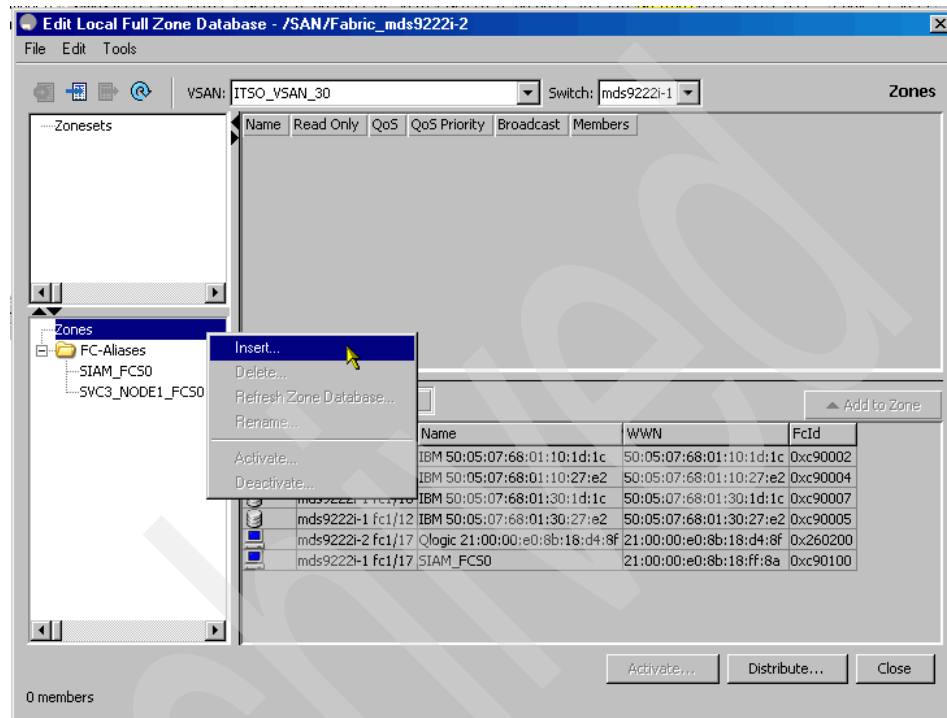

Figure 6-57 Creating a new zone using the GUI
1. Right-click **Zones** to insert a new zone, as shown in Figure 6-57.